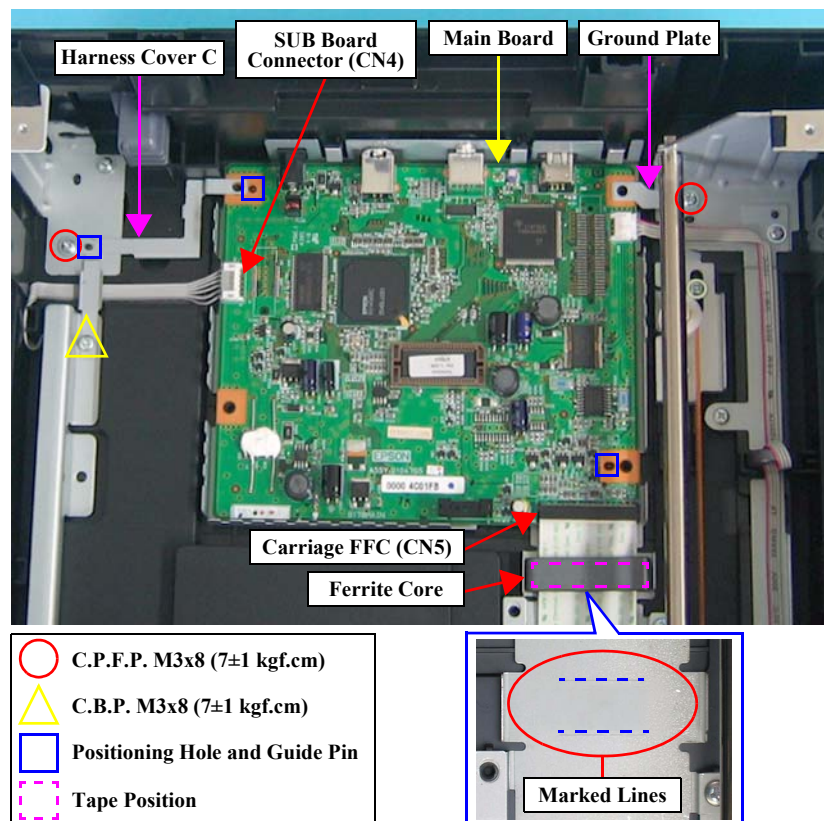

Figure 4-20. Removing the Main Board (1)
- When installing the Main Board and Harness C Cover, match the positioning holes and guide pins as shown in Figure 4-20 on page 46.
- Install the Carriage FFC with reference to Figure 4-20 on page 46.